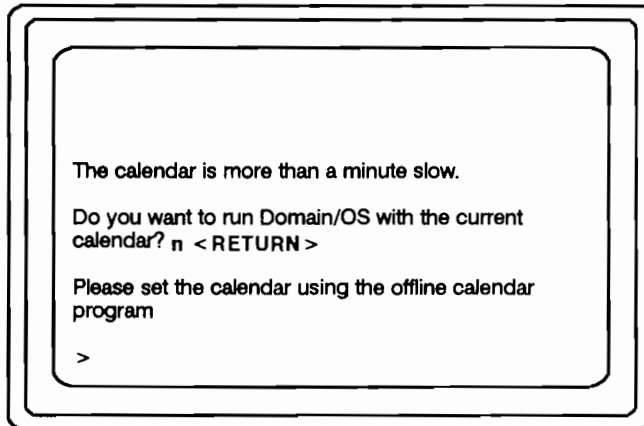

Figure 3-8. Running the calendar Program
2. If you receive one of the messages shown in Figure 3-8, you need to set the system's calendar. Respond to either of these screen prompts as shown in Figure 3-8.